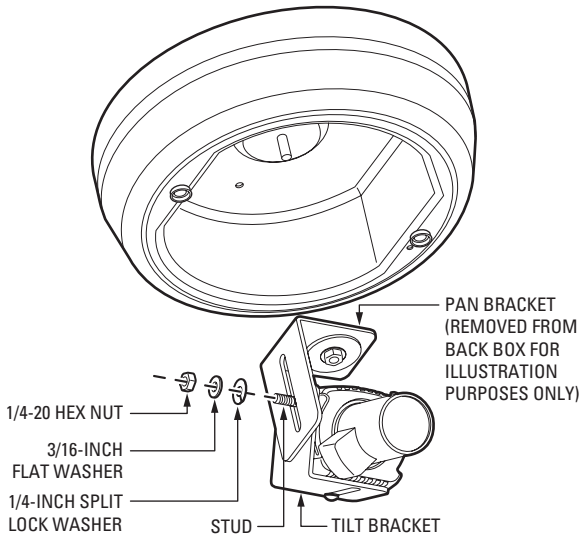

Figure 16. Removing Tilt Bracket from DF5/DF8 In-Ceiling Dome
7. Using a 7/16-inch wrench, remove the tilt bracket and attached camera from the back box. To do so, loosen the nut on the stud of the tilt bracket, and, while holding the camera securely, remove the nut and associated flat washer and lock washer from the stud (refer to Figure 16).
NOTE: In Figure 16, the pan bracket is removed from the back box for illustration purposes only. You do not need to remove the pan bracket from the back box.